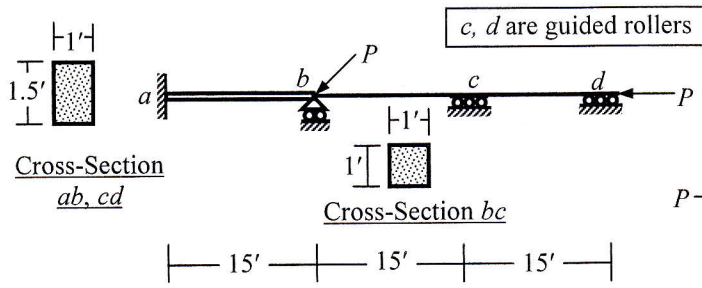

Fig. 6
6. Consider flexural deformations and geometric nonlinearity to calculate the force P required to cause buckling of the beam $abcd$ loaded as shown in Fig. 6.